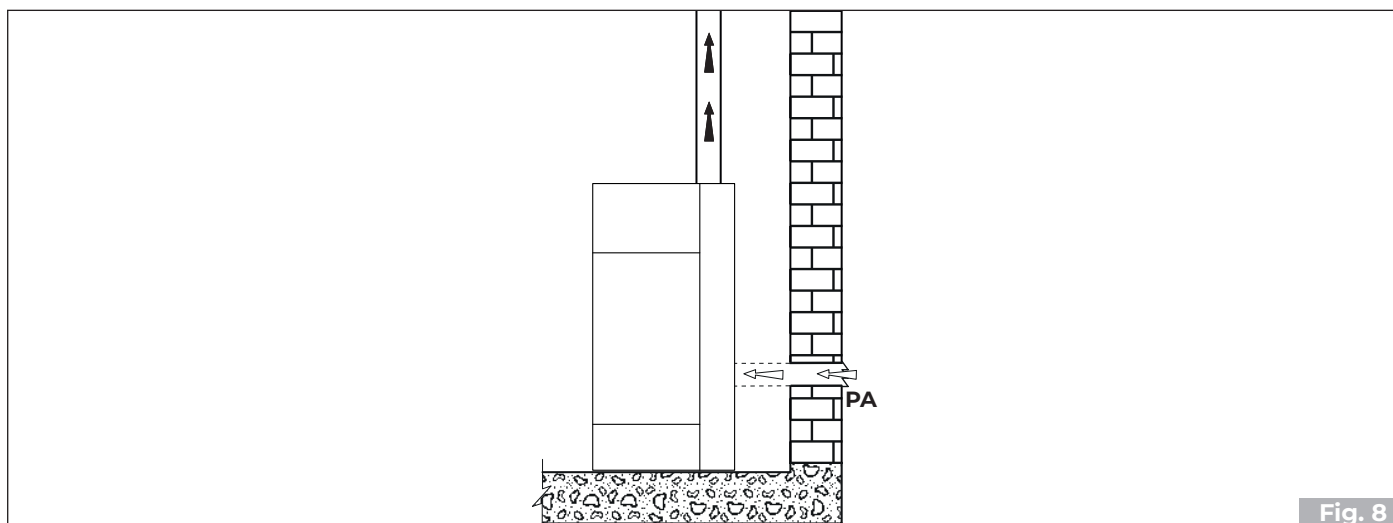

Fig. 8
- it can come from the installation room or suitable adjacent rooms (**Fig. 8**)
Create the air intake on the wall (**Fig. 8 - PA** =Air Intake), and leave the appliance to withdraw the room air, making sure to connect the section of corrugated pipe on the air inlet pipe, if supplied, fixing it with the strap and folding it slightly downwards to prevent any resonance effects.